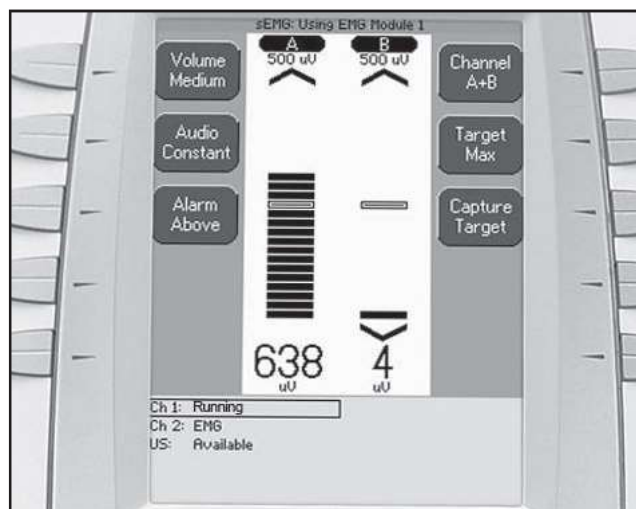

FIGURE 5.35A
10. The Audio Signal Generator and the attenuator should trigger the stim function of the Therapy System and Running will display in the selected channel. **See Figure 5.35A.**